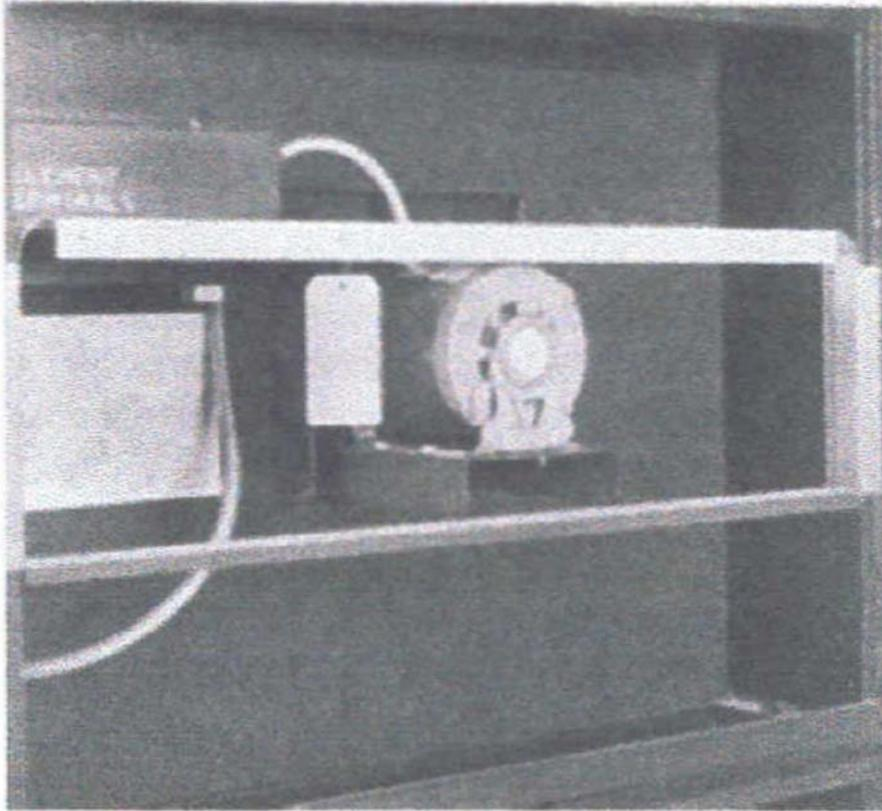

Figure 8-12. Trim Collar
1. Remove trim collar from its shipping position at rear of oven as shown in Figure 8-12.